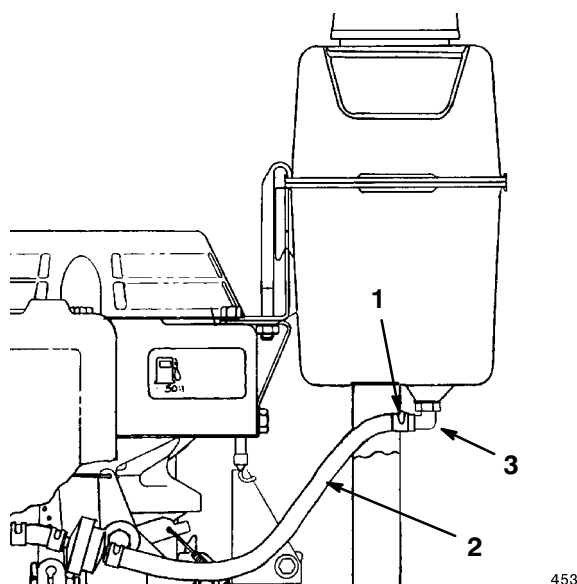

Figure 5
6. Remove the cap plugs from the end of the fuel line and the elbow fitting (Fig. 5). Discard the cap plugs.
7. Slide the end of the fuel line onto the fuel line elbow fitting (Fig. 5).
8. Use a pliers to pinch the fuel line clamp ends and slide the clamp down the fuel line toward the elbow fitting. Release the clamp to secure the fuel line to the elbow fitting (Fig. 5).